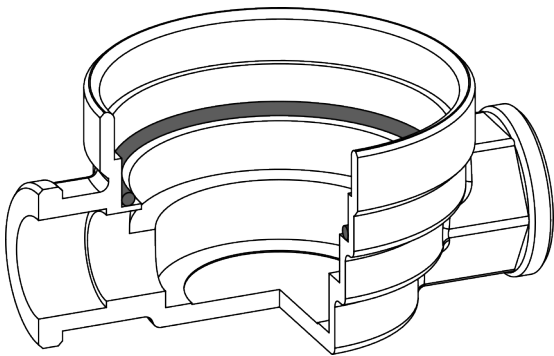

Figure 9. Installation of the gasket A34
1. Insert the enclosed O-ring into the EAT and press it on (Fig. 9).